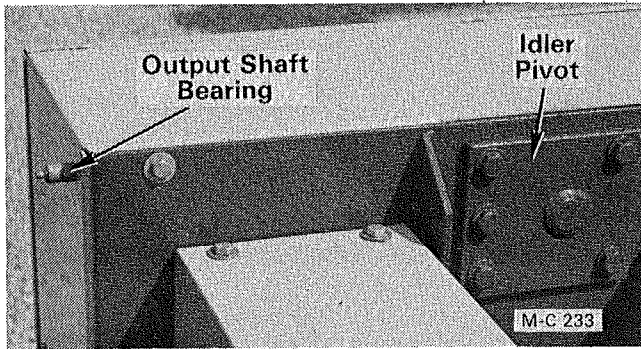

Figure 21 - Two on Model 2206 & 2408
3. Output shaft bearings, see Figure 21 and 22.